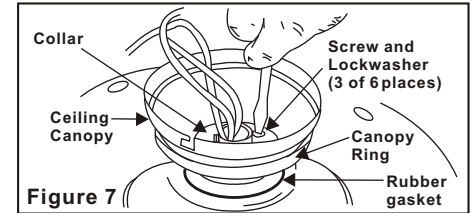

Figure 7
8. Remove three of the six screws and lock washers (every other one) from the collar of top motor. (Fig. 7)
9. Place the rubber gasket over the remaining three screws, route the wires exiting the top of the fan motor through the canopy ring (make sure the slot openings of the ring are on top). then proceed to place the ceiling canopy over the collar at the top of the motor. Align the mounting holes with the holes in the motor and fasten using the screws and lock washers provided (Fig. 7).
10. Tighten the mounting screws securely. (Fig. 7)